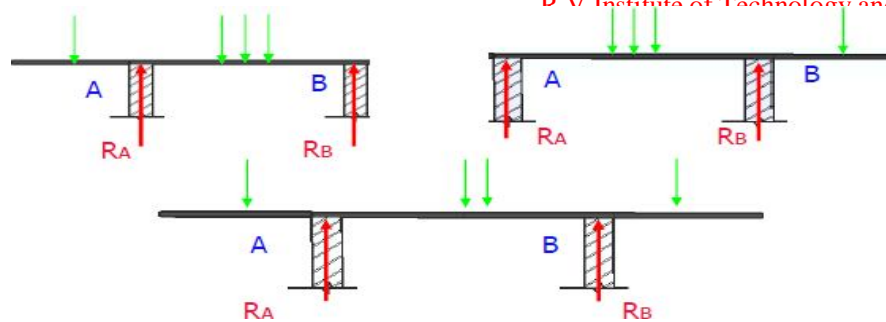

Fig 3.6 Over hanging beam
2. **Over hanging beam :** It is a beam which projects beyond the supports. A beam can have over hanging portions on one side or on both sides as shown in Fig 3.6